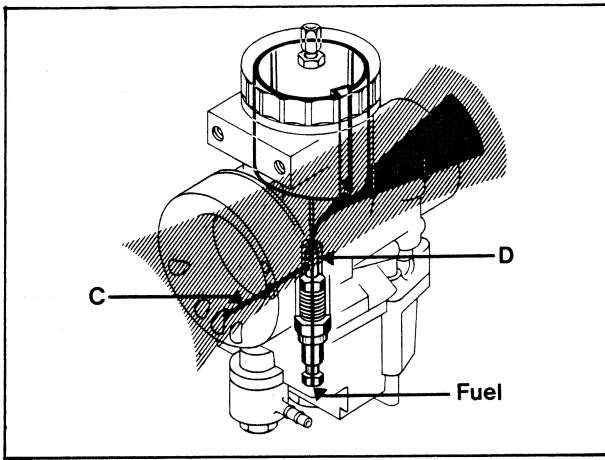

Fig. 4.1
Air is sucked through the passage (C). This air breaks up the fuel in the mixing tube (D). The atomized fuel is then sucked up into the venturi of the carburettor and mixed with the air flow through the throttle opening. See fig. 4.1.